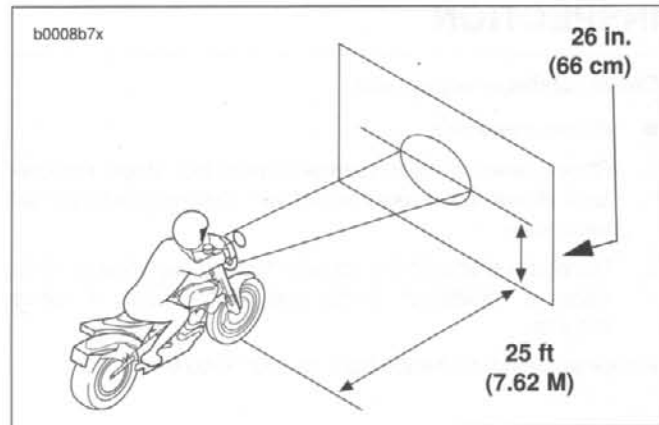

Figure 1-71. Checking Headlamp Alignment
3. See Figure 1-71. Position motorcycle 25 ft (7.62 M) away from a screen or wall. Measure the distance from directly below the front axle to the base of the screen/wall.
2. See Figure 1-71. Tilt headlamp up or down to aim it in relation to the horizontal line. At the same time, turn headlamp right or left to direct light beam straight ahead.